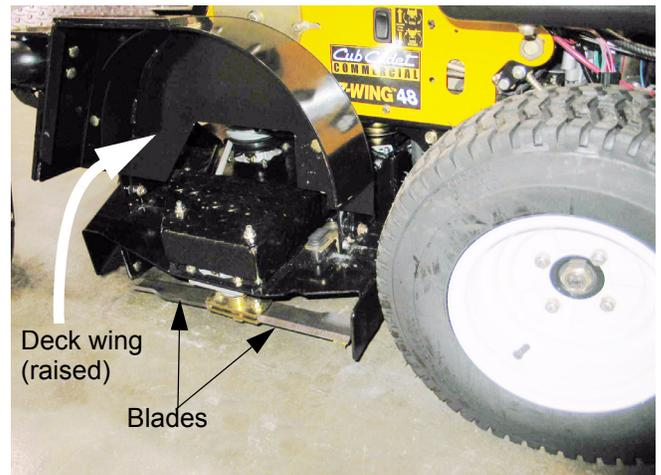

Figure 2.1
- 2.1. Flail blades have been in use on "bat-wing" mowers in a variety of applications for many years. The unique thing about their use on the Z-Wing mower is that they enable just the outer portion of the deck (wing) to be raised, and the blades fold back to clear obstacles while the wings are raised. See Figure 2.1.